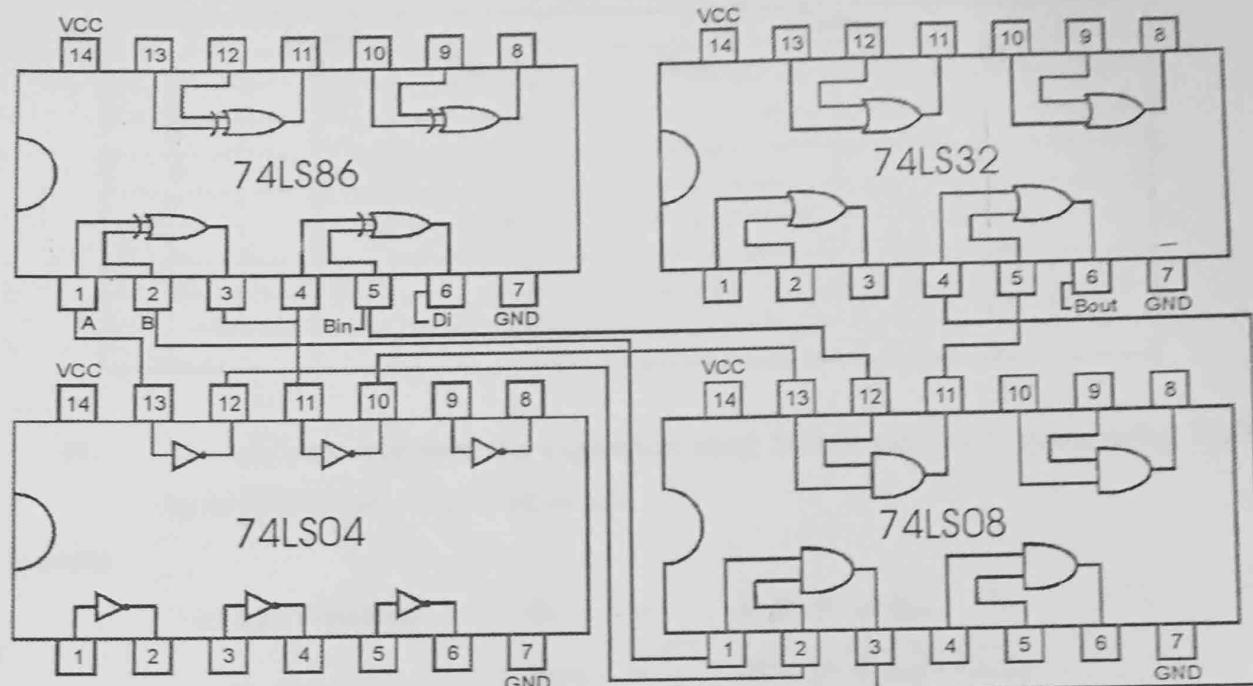

Figure 12.2
4. Wire the circuit according to the diagram shown in figure 12.2.